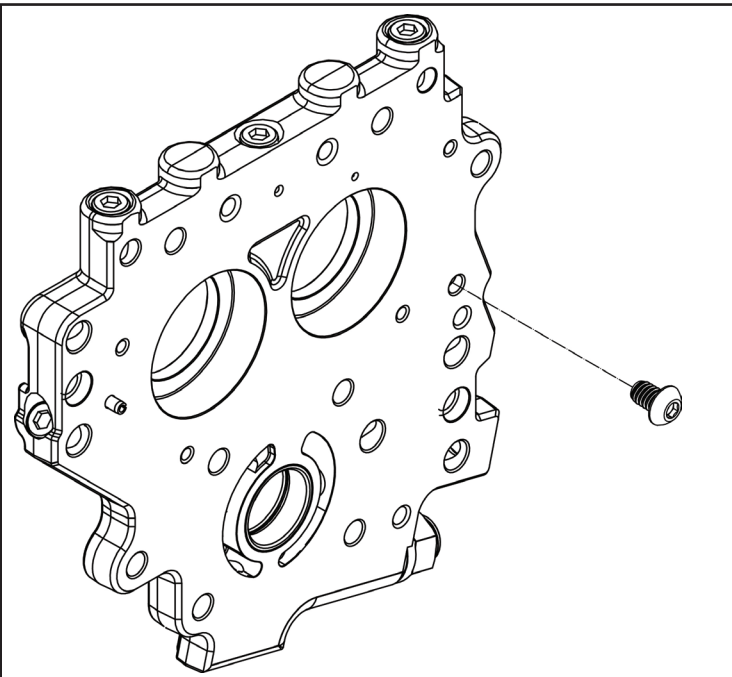

Figure 1
- Some early 1999 model engines do not have a chain oiler boss. See **Pictures 3 and 4**. If Your engine does not have this boss, screw #50-0413-S must be installed to block the oil hole in the back side of the cam plate. Install with red thread locker and tighten to 70 in-lb. **See Figure 1.**